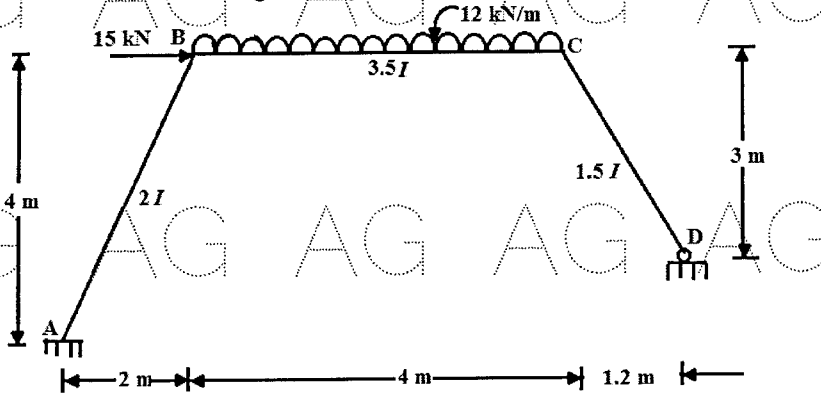

Figure 3
5. Analyse the beam shown in figure 3 by moment distribution method. [10]